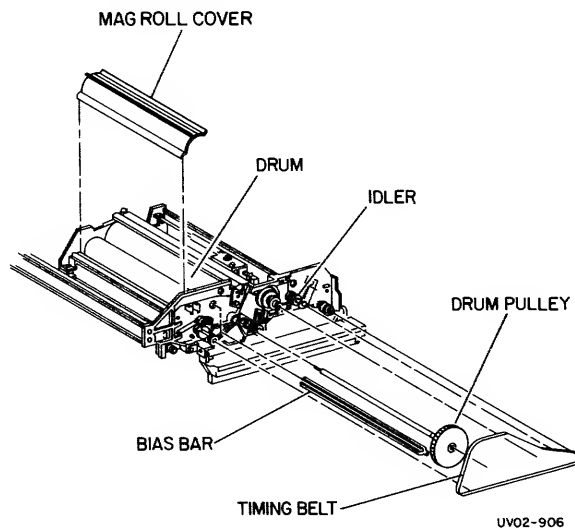

Figure 3-8. Drum Removal
3. ACCESS THE DRUM (Figure 3-8).